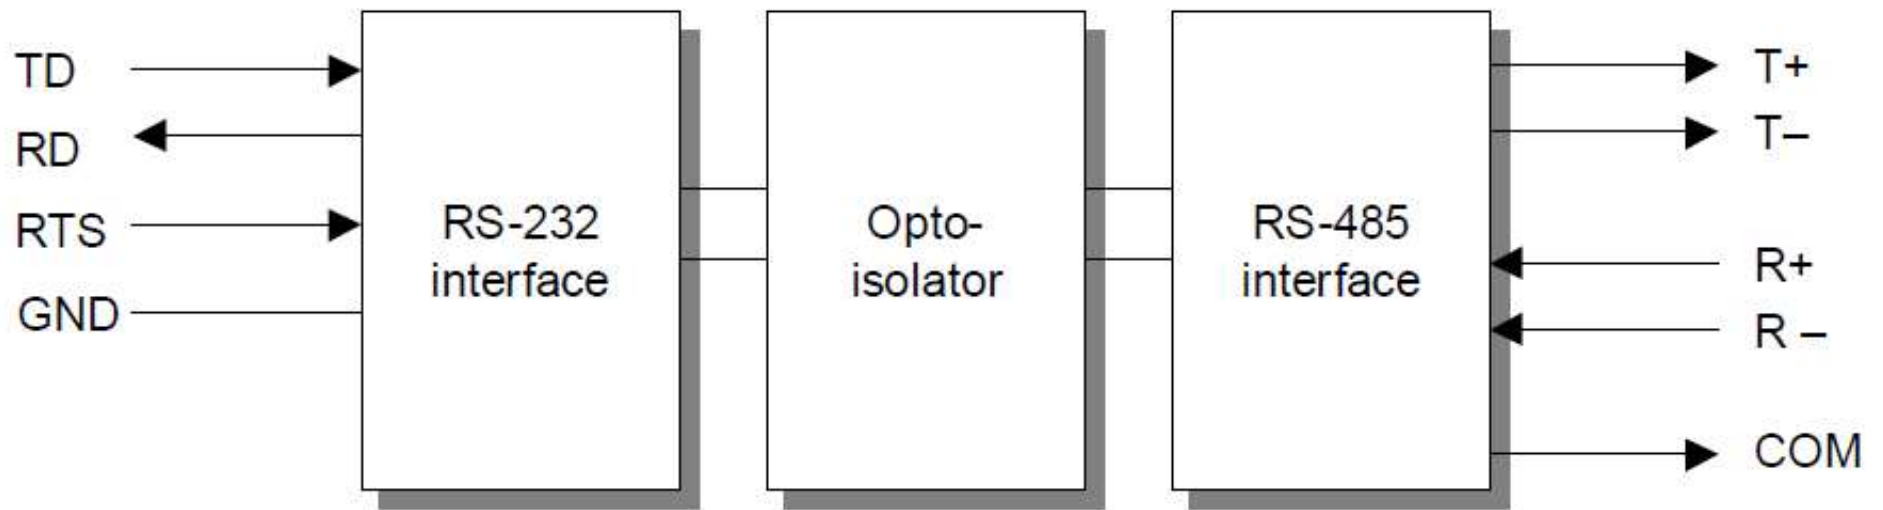

Figure 21: Isolation between RS-232 and RS-485
- This is typically achieved with an opto-isolator which converts between the RS-232 interface and the RS-485 interface, as shown in Figure 21.